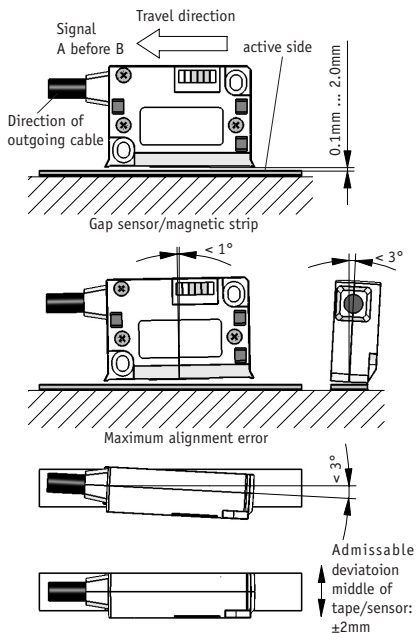

Fig. 6: Definition of the counting direction with magnetic strip and assemblage sensor/magnetic ring, gap measure, tolerances
- **Observe the correct alignment with regard to the counting direction (fig. 6).** This does not